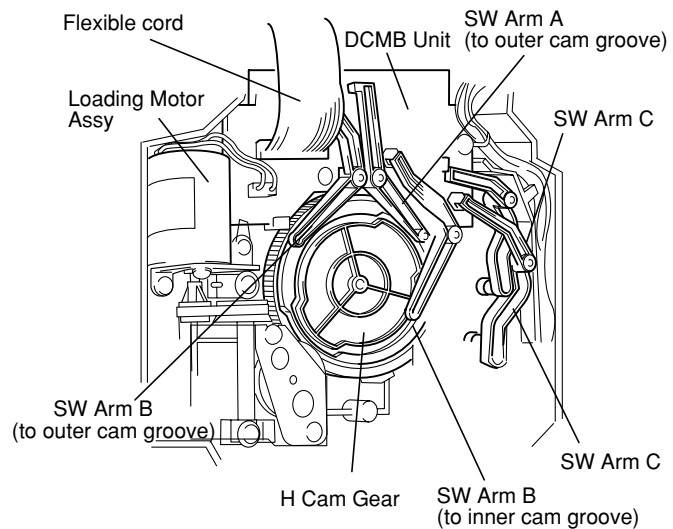

Fig. 7
1. Attach the SW arms as indicated in Fig. 7.